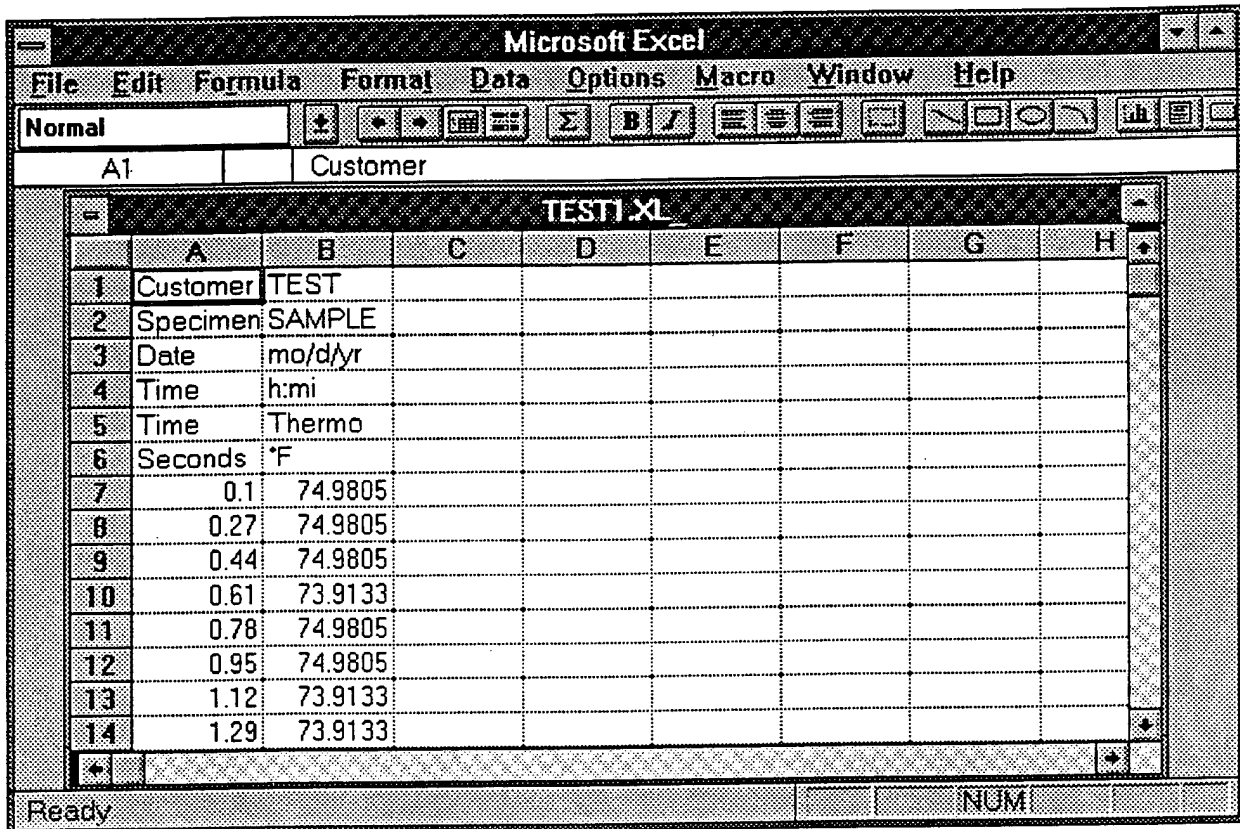
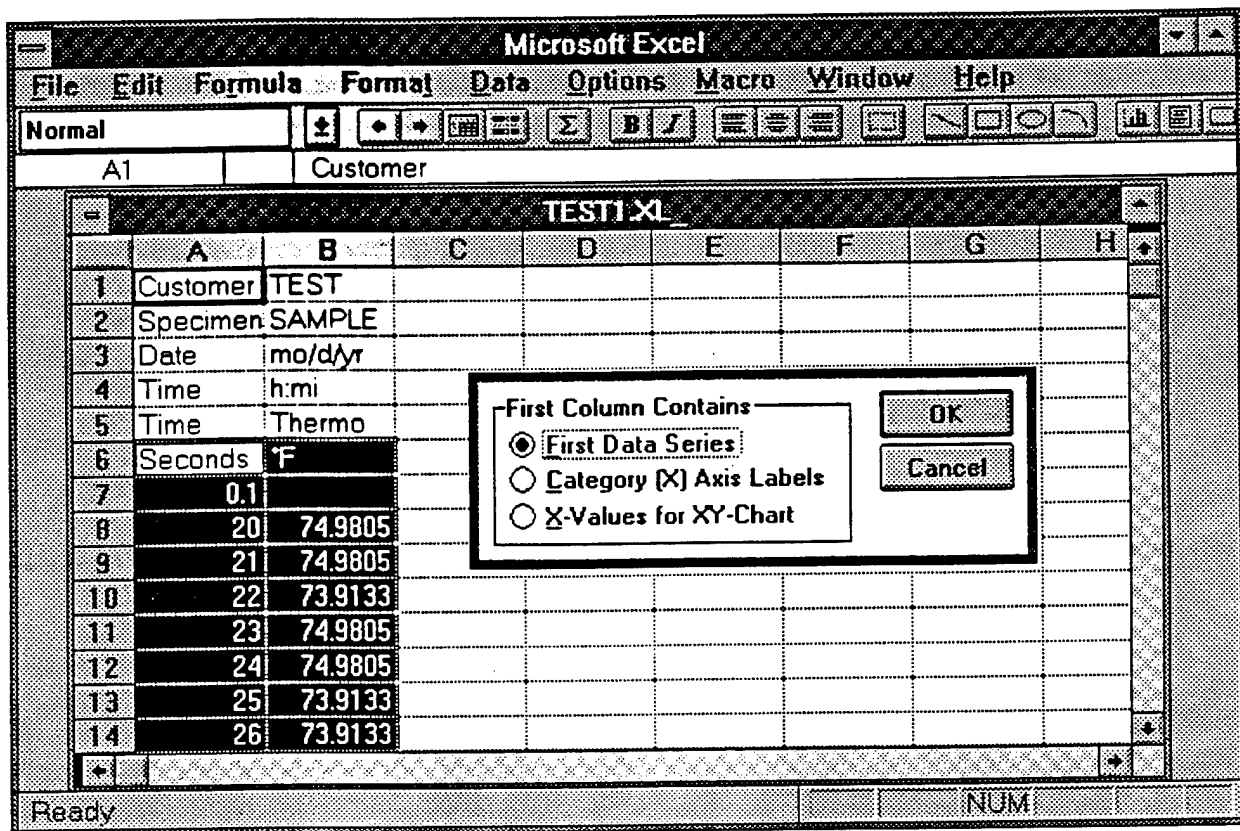

Figure 3-11. File Information.
Figure 3-12. File Information (Shaded).
3. Position cursor on OPEN and execute single click. A list of files will be displayed in Figure 3-10. Position cursor to file created for the test and execute a single click. Position cursor on OK and execute a single click. Figure 3-11 showing the selected data file will appear.
4. Execute and hold mouse click while moving mouse over entire area of data in Figure 3-11 to be plotted. When the entire area is shaded as shown in Figure 3-12, immediately release the click and position the cursor on the bar graph symbol in upper right corner of the screen.
5. Position cursor in lower left corner of screen (Figure 3-12). Execute and hold mouse click. Move cursor from lower left to upper right of screen to create data boundaries. Release the click. A small box will appear in the figure. Position cursor to select first column information (usually X-values for XY chart is selected) and execute single click. Position cursor to OK and execute single click. The plot will appear on the screen.